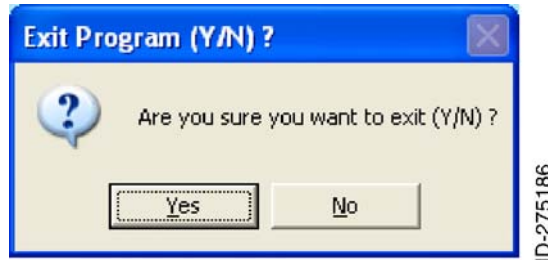

Figure 41. (Sheet 1 of 1) Exit Program (Y/N)? Window (EXIT ADAHRS)
- (16) Click on the EXIT button on the ADAHRS Loader program and the window shown in Figure 41 will be displayed.